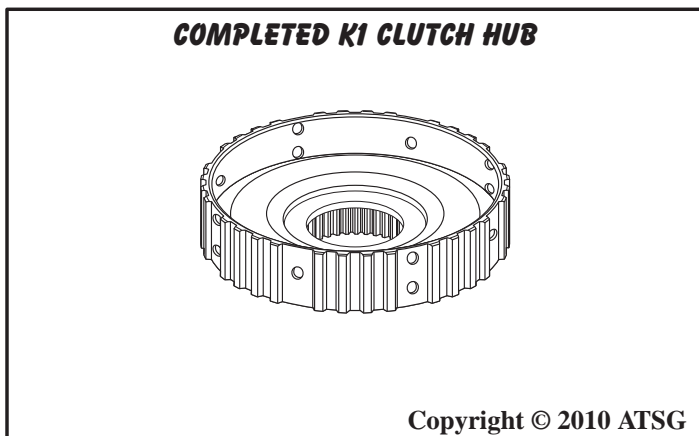

Figure 121
11. Set the K1 clutch hub assembly aside for the final assembly process (See Figure 121).